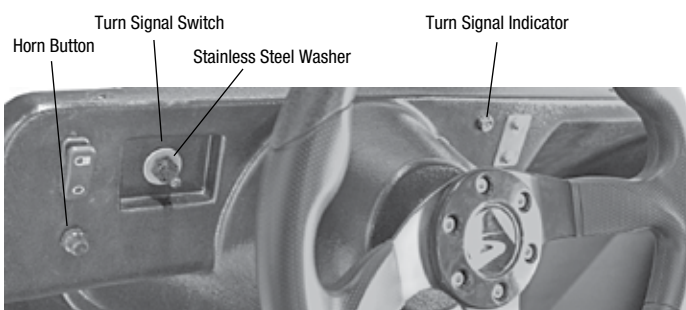

Fig. 7
- 5** Locate suitable areas for the horn button, the signal indicator and the turn signal switch in the recommended locations below. Be sure to mount the controls where they will be visible when the vehicle is being driven. Drill two 15/32" holes for the horn button and signal switch and a 7/16" hole for the signal indicator. **NOTE: Make sure to use the stainless steel washer when mounting the signal switch on a plastic area.** Mount the controls and install the rubber boots as shown in figures 7 & 9.